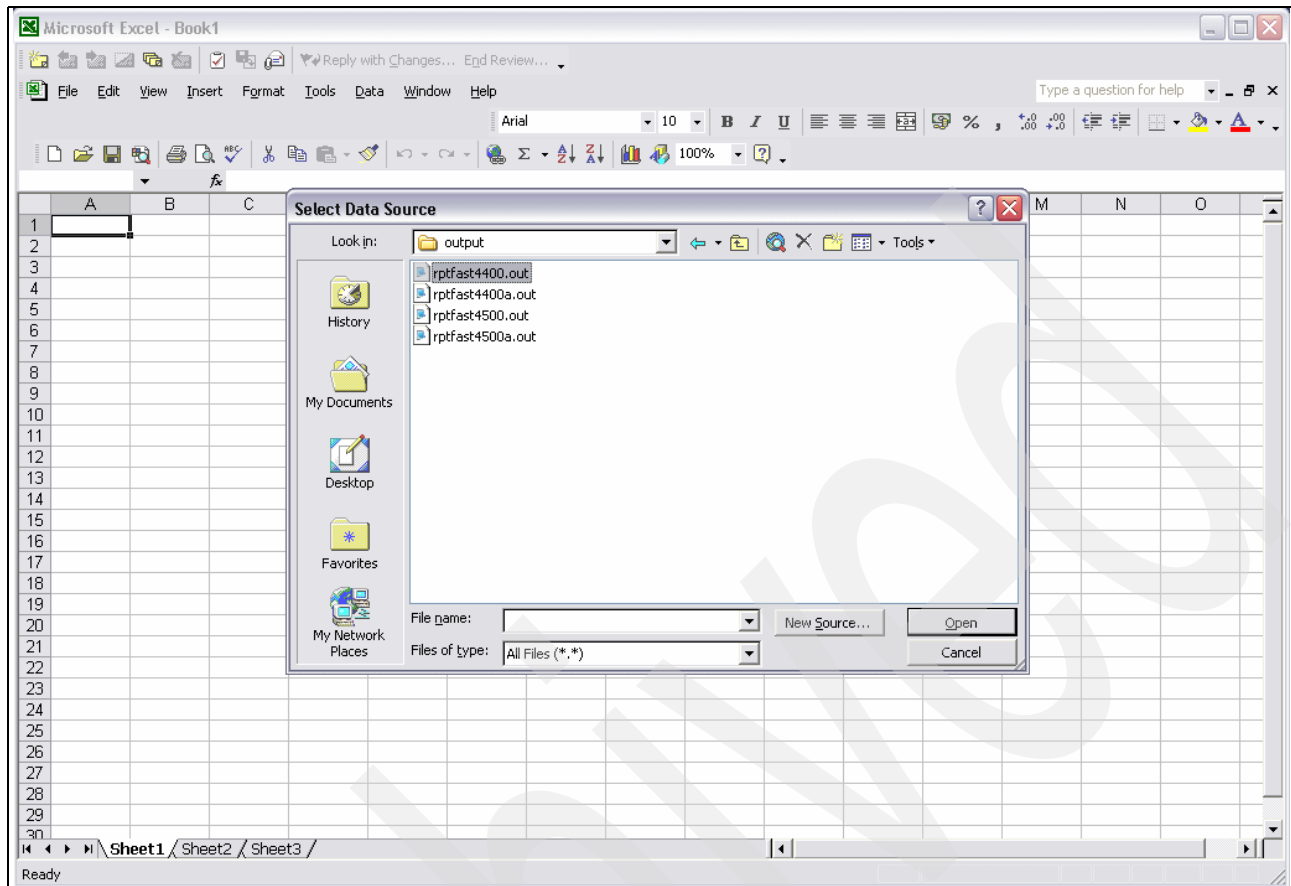

Figure 6-58 Select the data source to begin the import process
3. Locate the data file in the directory where you store the TPC CLI output file (**rptfast4500.out**). After you select the data file, click **Open** to start the import process as shown in Figure 6-58 on page 285.